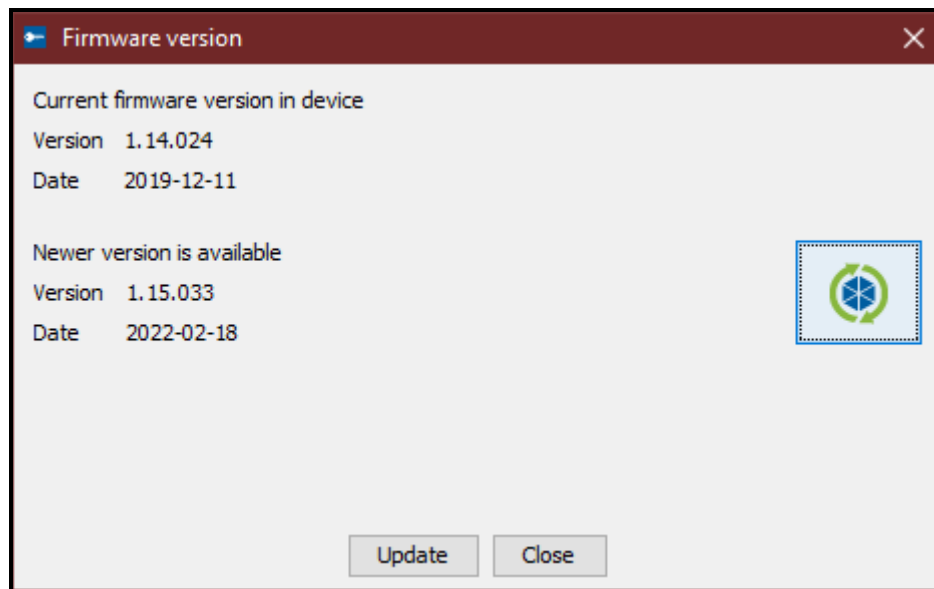

Fig. 12. Control panel firmware update window.
2. A window will open with the data of the current version of device firmware, as well as information on the new available version (see Fig. 12).